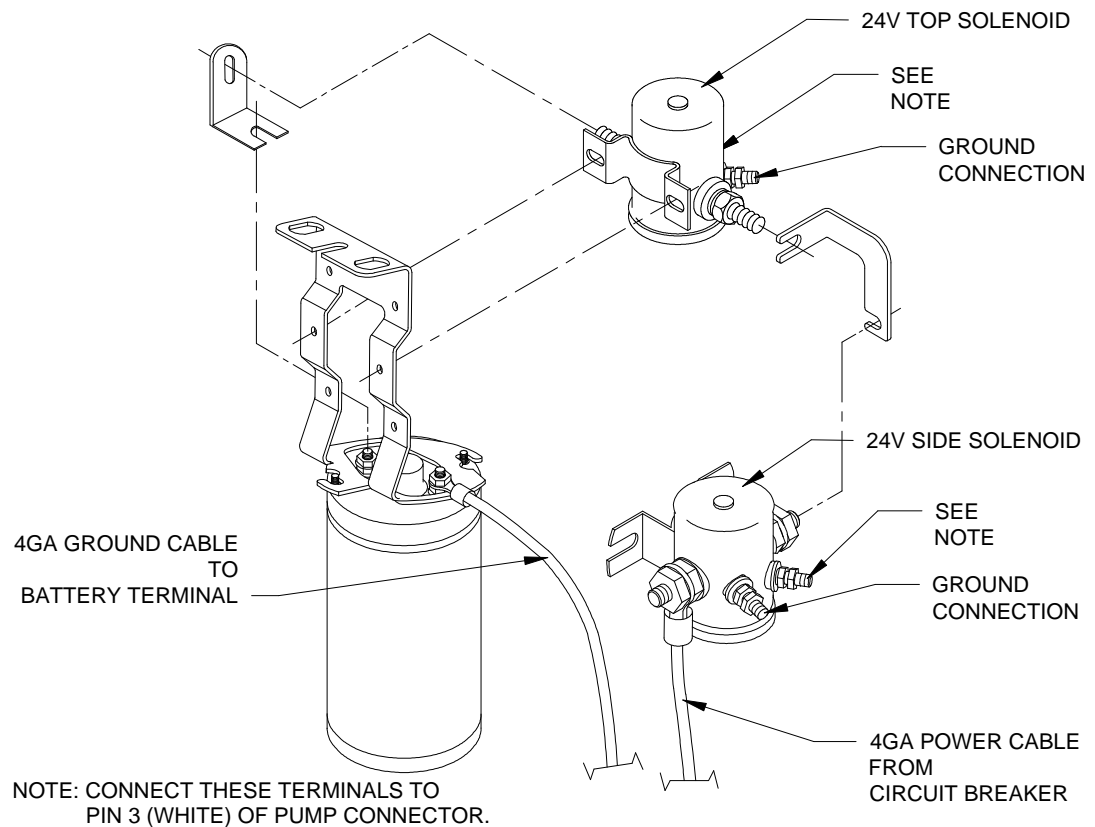

FIGURE 2-13: 24VDC DUAL SOLENOID WIRING
- 5) Refer to **Figure 2-13**. The ground cable is routed from the negative stud (-) on pump motor to the negative battery terminal.